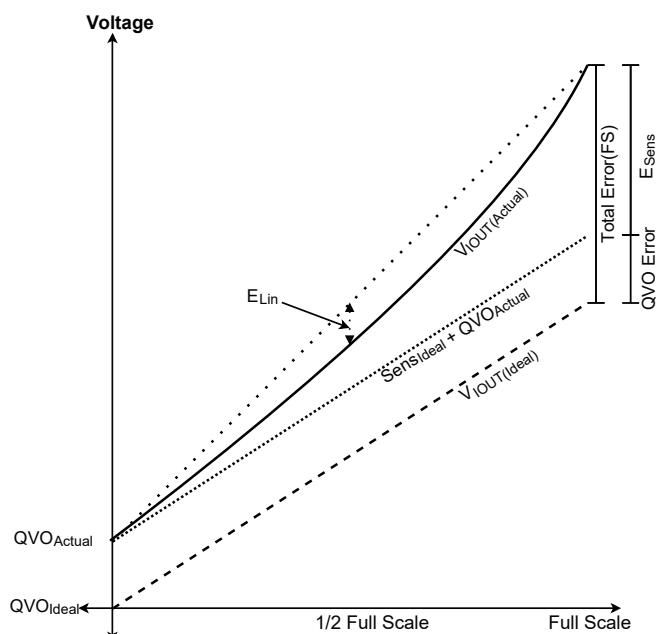

Figure 10: Accuracy Error
As the amount of field applied to the part changes, the sensitivity of the device can also change slightly. This is referred to as linearity error, E_{LIN} (see Figure 10). Consider two currents, I_1 (1/2 FS) and I_2 (FS). Ideally, the sensitivity of the device is the same for both fields. Linearity error is calculated as the percent of change in sensitivity from one field to another. Error is calculated separately for positive ($E_{LIN(+)}$) and negative ($E_{LIN(-)}$) currents, and the percent errors are defined as:
Total output error incorporates all sources of error and is a function of current. At relatively high currents, total output error is mostly due to sensitivity error. At relatively low inputs, total output error is mostly due to offset voltage (V_{OE}). At I = 0 A, total output error approaches infinity due to the offset. An example of total error at FS can be observed in Figure 10.